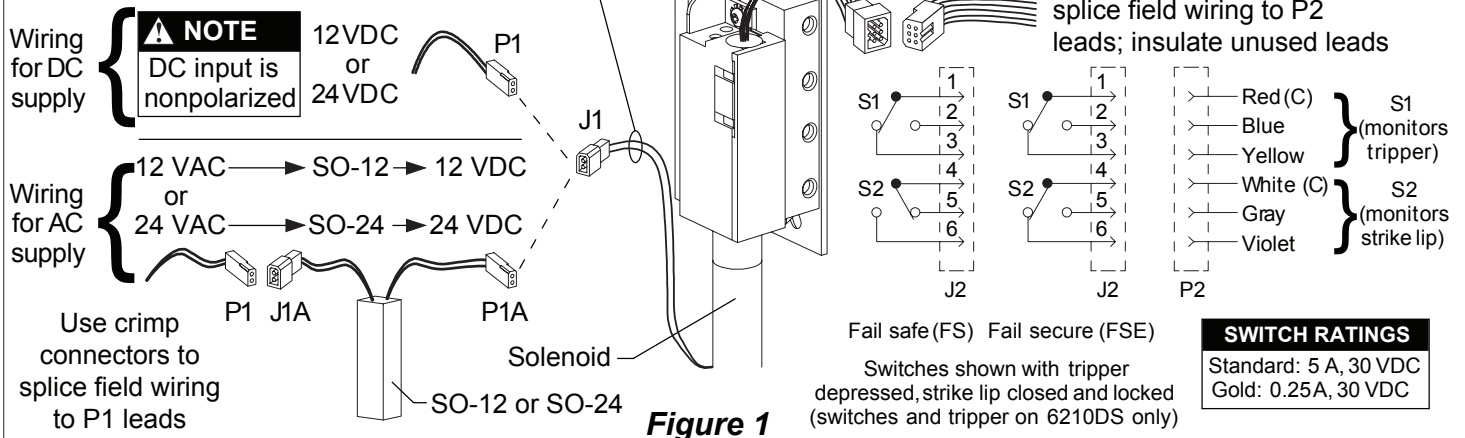

Figure 1
- 3 Wire strike (Figure 1). (Switches on 6210DS only.)
- 5 Test strike: Apply solenoid power. Fail secure (FSE) lip unlocks. Fail safe (FS) lip locks. Figure 1 shows status of switches.